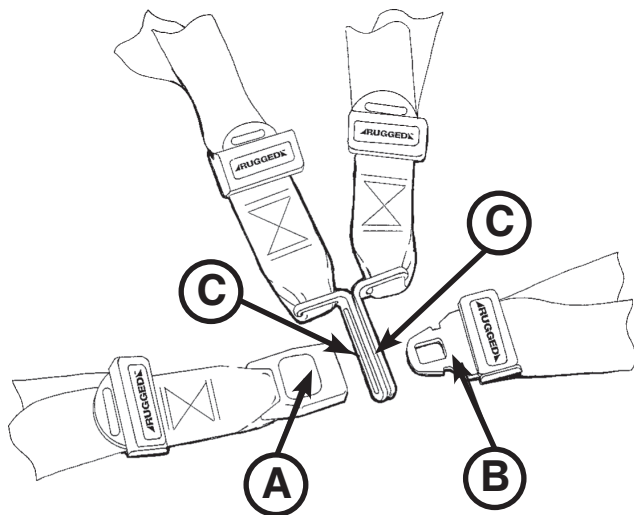

Figure 42: Buckling the Safety Restraints
- **To open the restraint**, press the red button (A) on the front of the buckle “receiver”. This releases the buckle latch plate (B) which can then be pulled out of the receiver (Figure 42).
- **To close the restraint**, push the latch plate into the receiver until a “click” is heard. When fastening the chest restraint ensure that the latch plate passes through both links (C) on the shoulder strap (Figure 42).